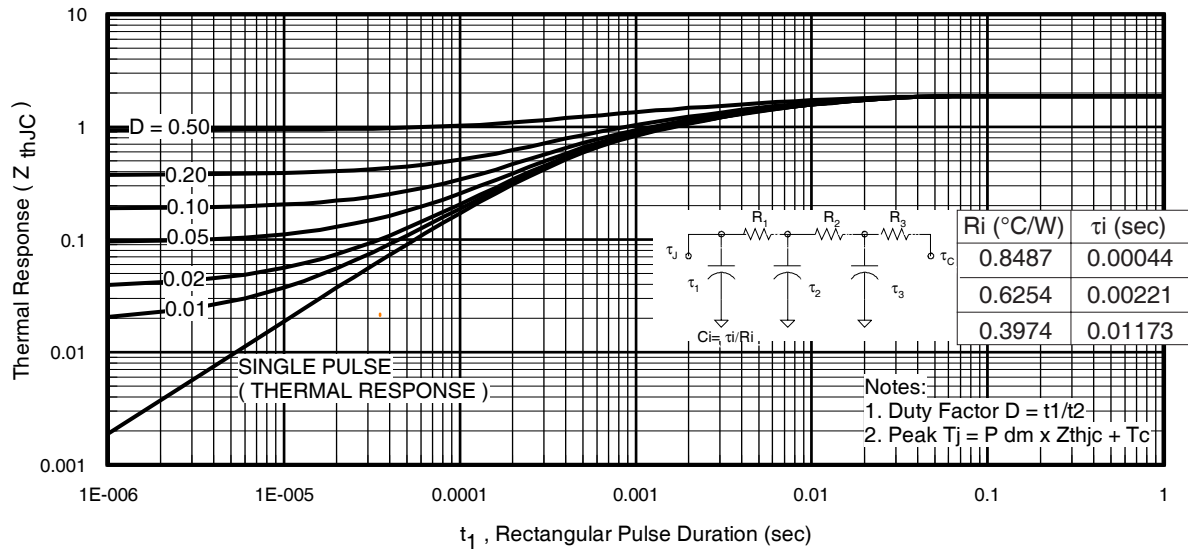
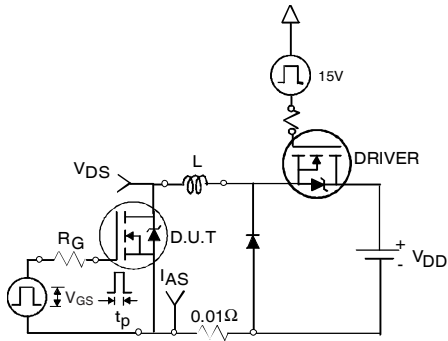

Fig 11. Maximum Effective Transient Thermal Impedance, Junction-to-Case
Fig 12a. Unclamped Inductive Test Circuit
- ① Repetitive rating; pulse width limited by max. junction temperature. (See fig. 11).
- ② Limited by T_{Jmax} , starting $T_J = 25^\circ\text{C}$, $L = 0.18\text{mH}$, $R_G = 25\Omega$, $I_{AS} = 31A$, $V_{GS} = 10V$. Part not recommended for use above this value.
- ③ $I_{SD} \leq 31A$, $di/dt \leq 840A/\mu s$, $V_{DD} \leq V_{(BR)DSS}$, $T_J \leq 175^\circ\text{C}$.
- ④ Pulse width $\leq 1.0\text{ms}$; duty cycle $\leq 2\%$.
- ⑤ $C_{oss \text{ eff.}}$ is a fixed capacitance that gives the same charging time as C_{oss} while V_{DS} is rising from 0 to 80% V_{DSS} .
- ⑥ Limited by T_{Jmax} , see Fig.12a, 12b, 15, 16 for typical repetitive avalanche performance.
- ⑦ This value determined from sample failure population, starting $T_J = 25^\circ\text{C}$, $L = 0.18\text{mH}$, $R_G = 25\Omega$, $I_{AS} = 31A$, $V_{GS} = 10V$.
- ⑧ This is applied to D²Pak, when mounted on 1" square PCB (FR-4 or G-10 Material). For recommended footprint and soldering techniques refer to application note #AN-994.
- ⑨ R_θ is rated at T_J of approximately 90°C .
3. Equation below based on circuit and waveforms shown in Figures 12a, 12b.
$Z_{thJC}(D, t_{av})$ = Transient thermal resistance, see figure 11)